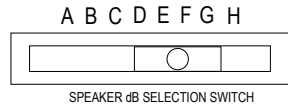

Figure 3: Speaker Setting Switch Shown on Factory Setting "F"
- Using the slide switch shown in Figure 3, select voltage and wattage as shown in Table 4 below. Each letter corresponds to a position of the switch located on the printed circuit board. The ELSP comes pre-set on setting F (70V @ 1/2 W).